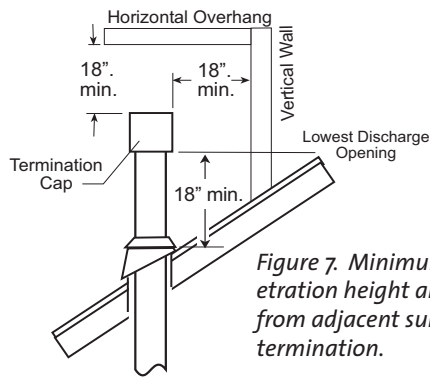

Figure 7. Minimum roof penetration height and clearance from adjacent surfaces - vertical termination.
- GAS VENT HEIGHT: In no case shall any discharge opening on the cap be less than 18" (457 mm) horizontally from the roof surface. See fig. 7.